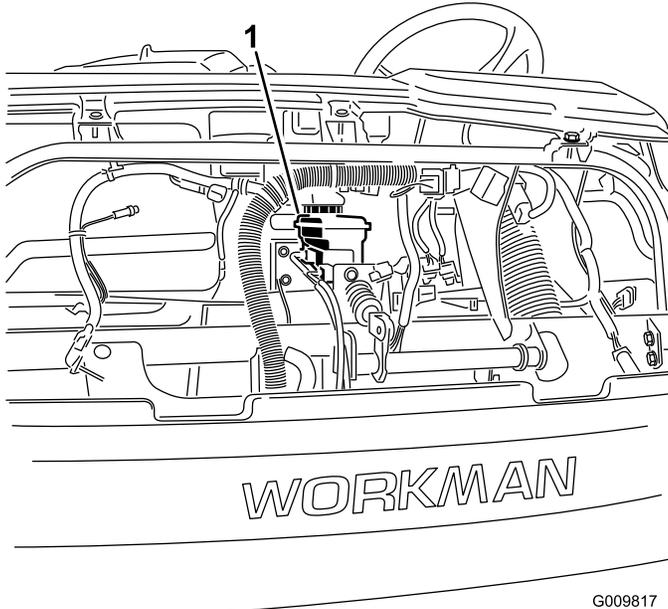
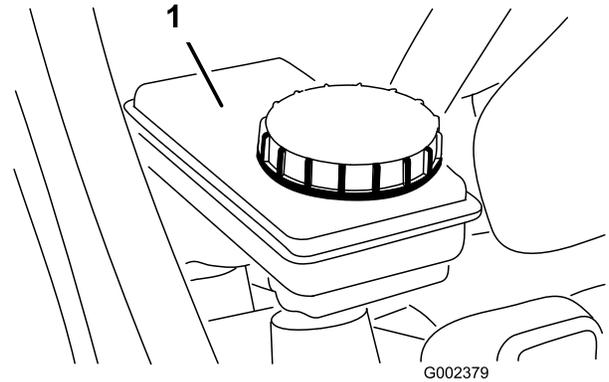

Figure 26
Figure 27
3. Check the fluid level in the brake-fluid reservoir (Figure 26 and Figure 27).
- A. Clean the area around the cap for the reservoir (Figure 27).
- B. Remove the reservoir cap (Figure 27).
- C. Add the specified brake fluid to the Full line on the reservoir (Figure 27).
- D. Install the cap (Figure 27).